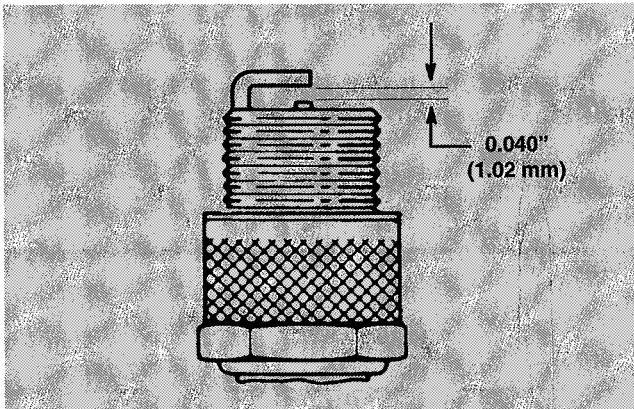

Figure 18
4. Set air gap between center and side of electrodes at 0.040 of an inch (1.02 mm) (Fig. 18). Install correctly gapped spark plug w/gasket seal, and tighten plug to 30 ft–lb (40 Nm). If torque wrench is not used, tighten plug firmly.